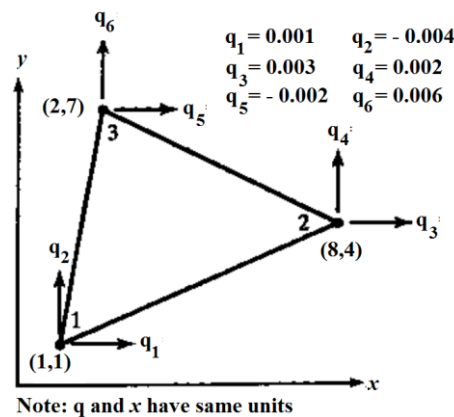

Figure 5 (b)
b) For the triangular element shown in the figure 5 (b), obtain the strain – displacement relation matrix and determine the strains  $\epsilon_x$ ,  $\epsilon_y$  and  $\gamma_{xy}$ .